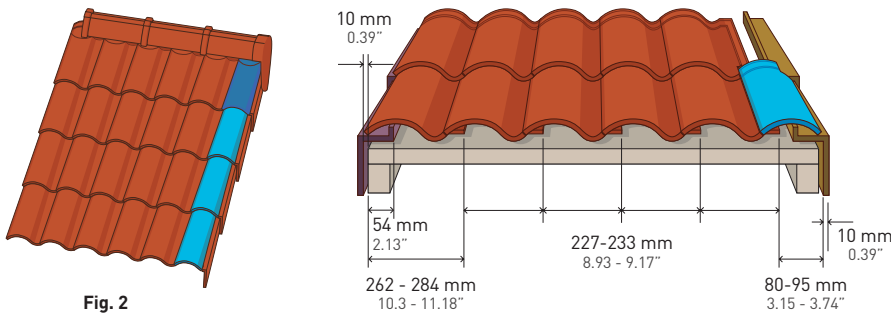
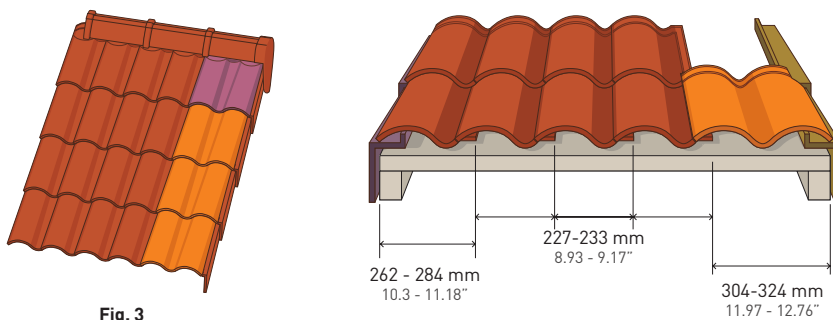

Fig. 2
Fig. 3
4. The right section (vertical terminating end) of the roof can be finished by using either a Half (1/2) Tile (Q16 - Q17) (fig.2) or a Double Tile (Q33 - Q34) (fig.3).
5. For a faster installation and extra ridge ventilation, an Under Ridge Tile (Q70) (fig.2) and/or a Double Under Ridge Tile (Q71) (fig.3), is recommended when reaching the ridge line.